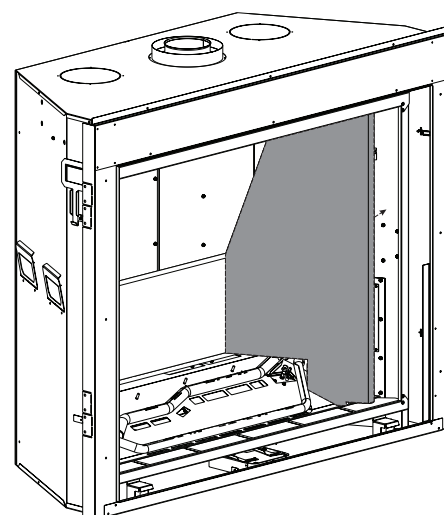

Figure 72
4. Remove right liner panel. **See Figure 72.**